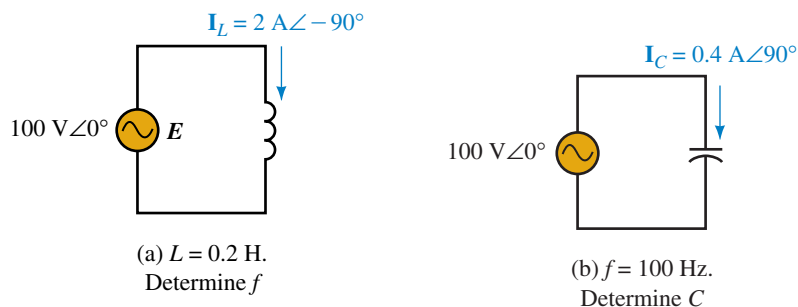

FIGURE 16–57
35. For each circuit of Figure 16–57, determine the unknown.